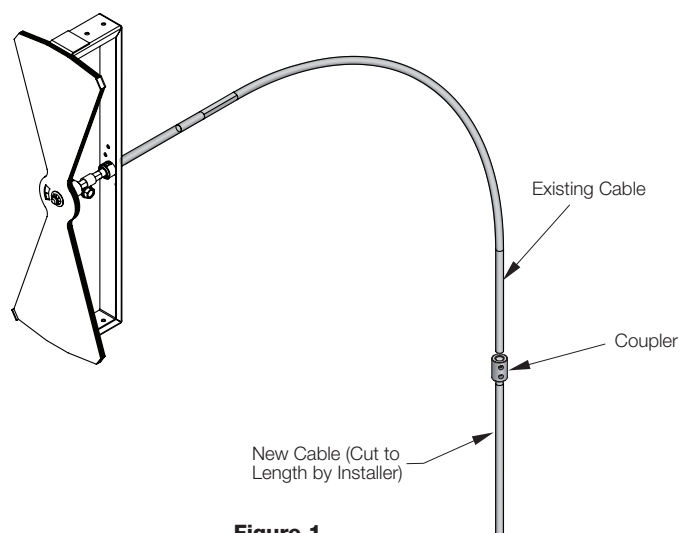

Figure 1
2. Attach the first coupler to the already installed cable and then install the new cable onto the other end of the coupler. (Fig. 1)